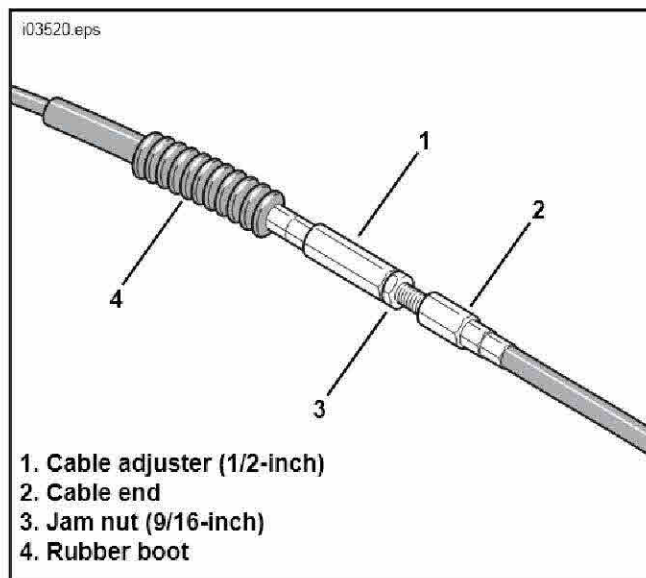

Figure 1. Clutch Cable Adjuster
1. See Figure 1. Loosen clutch adjuster to obtain slack in the clutch cable (2) by performing the following:
- a. Locate cable adjuster (1) and slide off rubber boot (4).
- b. While holding cable adjuster with 1/2-inch wrench, loosen jam nut (3) using a 9/16-inch wrench.